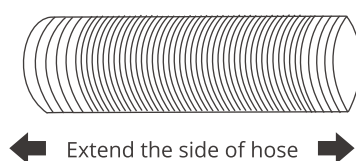
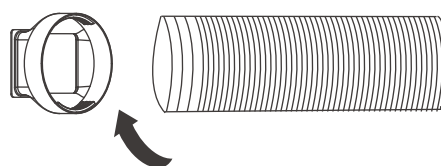

Fig.1
Fig.2
1. Extend either side of the hose (Fig.1), and screw the hose inlet (Fig.2).